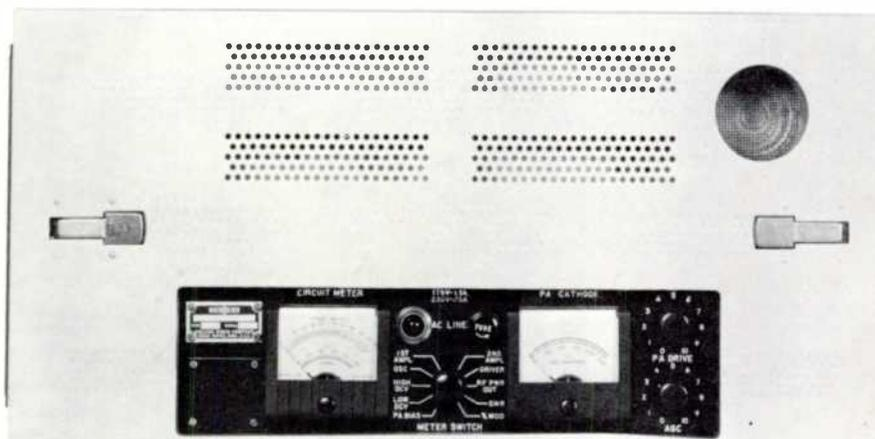

Figure 1-2. R-F Unit
1.7.1.1 PHYSICAL CHARACTERISTICS. (Refer to figure 1-2.) The r-f unit of Transmitter 242F-5CL is a vertically mounted chassis with front and rear dust covers. With respect to its mounted position, it is 19 inches wide, 8-3/4 inches high, and 7 inches